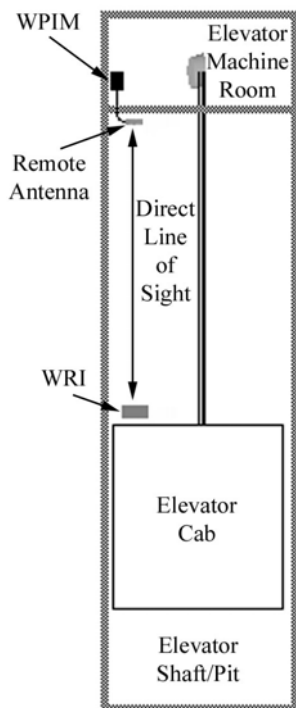
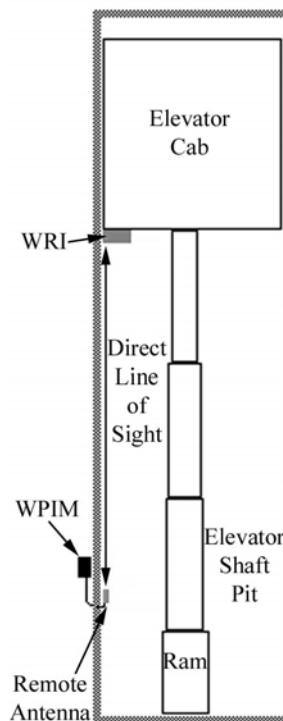

Figure 2-2 – Cabled Hoist Elevator Installation
Figure 2-3 – Hydraulic Elevator Installation
This section describes the ideal locations to mount the WRI and WPIM to control a typical cabled hoist elevator (Figure 2-2) or a typical hydraulic elevator (Figure 2-3).
2.3.2.1 Cabled hoist machine installations with upper machine rooms (Figure 2-2)
Mount the WRI on top of the cab, lying down if possible (Figure 2-2).
2.3.2.2 Cabled hoist machine installations with lower machine rooms (Figure 2-3)
2.3.2.3 Hydraulic Machine Installations (Figure 2-3)